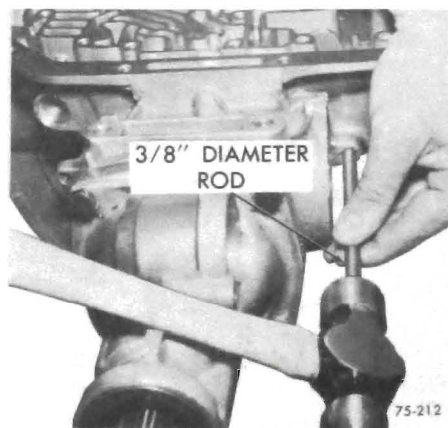

Figure 75-277
3. Install parking pawl shaft retainer plug. Drive into case using a 3/8" dia. rod, until retainer plug is flush to .010" below face of case. Stake plug in three (3) places to retain plug in case. See Figure 75-277.